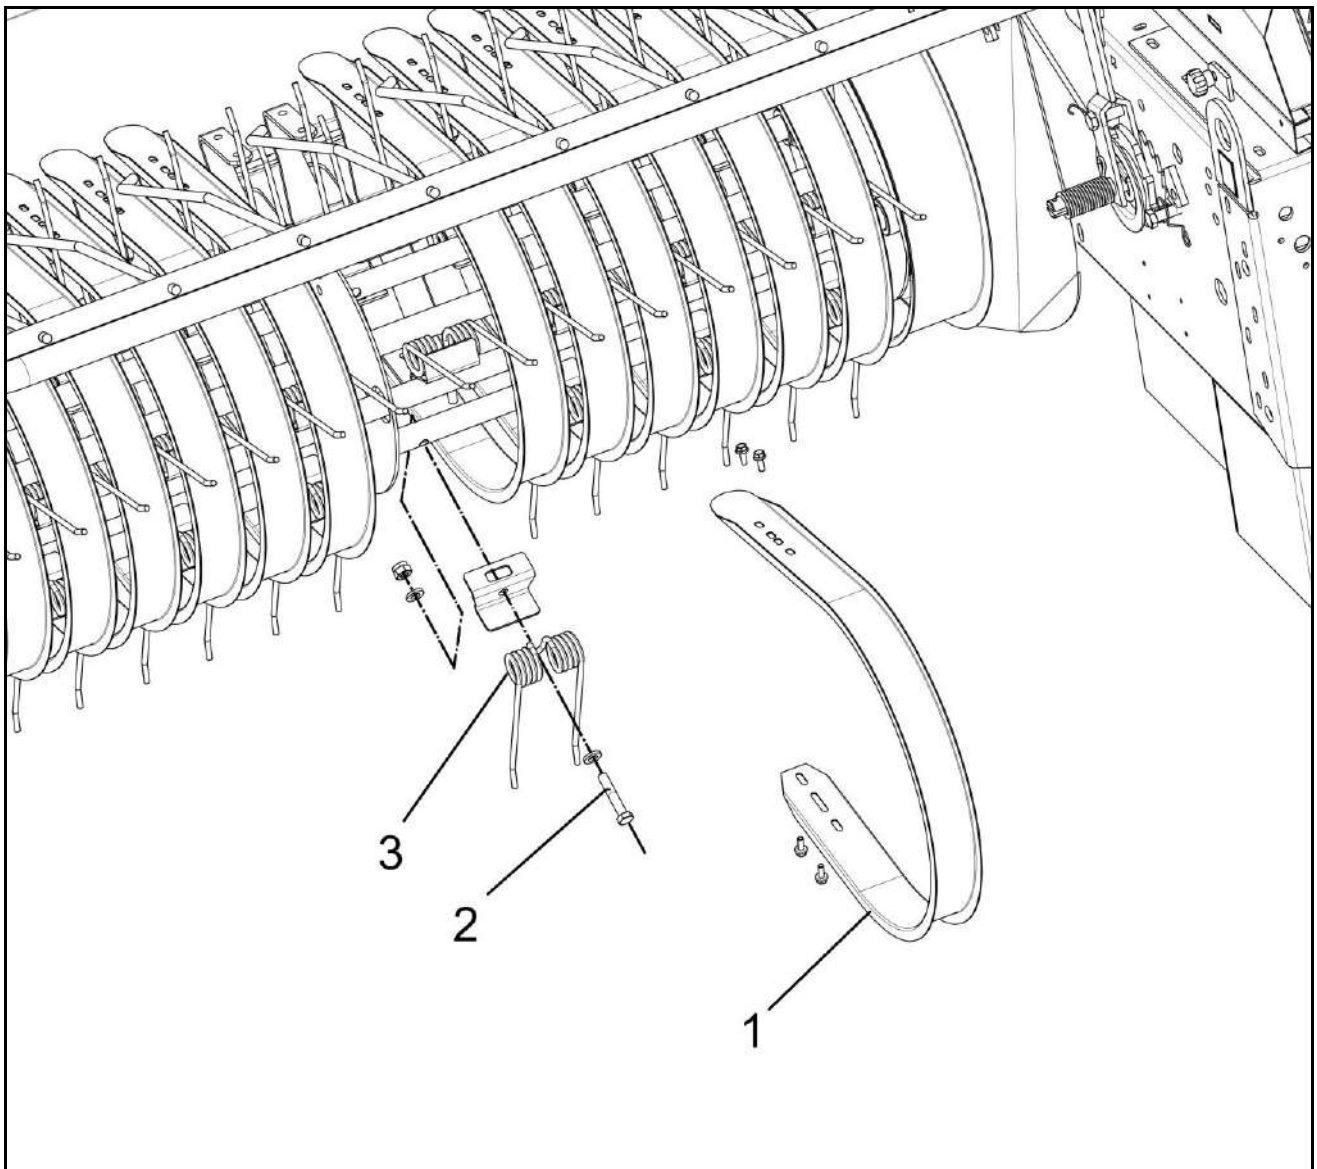

Fig. 6.8
To replace the springs, proceed as follows, referring to Figure 6.8: remove the band (ref. 1) by unscrewing its fastening screws, loosen the bolt (ref. 2), and replace the spring (ref. 3).